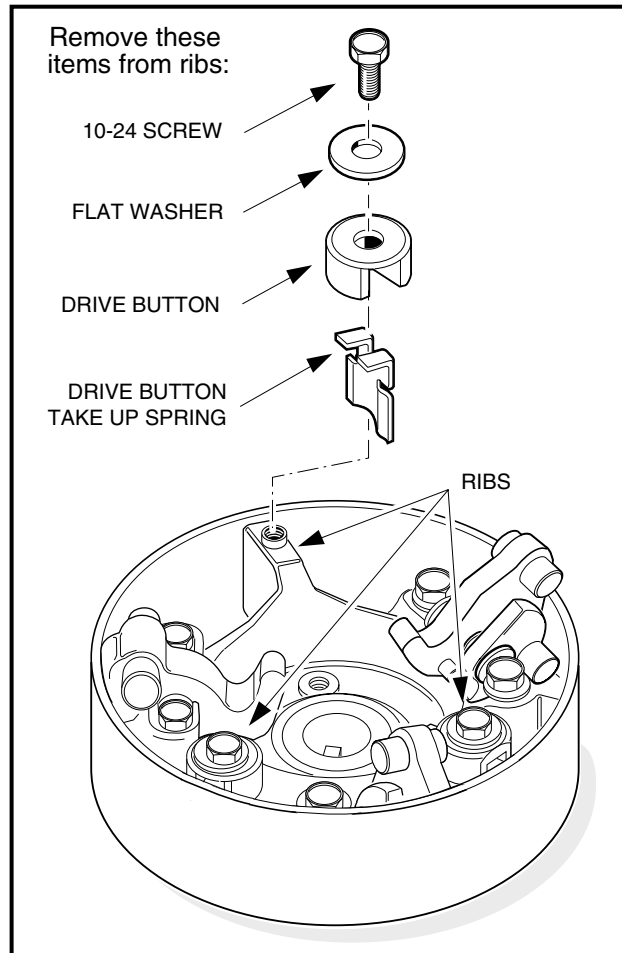

Figure 17-8 Drive Button Mounting
- 4.1. Remove the screws, flat washers, drive button take-up spring, and drive buttons as shown (Figure 17-8, Page 17-10).
14. While compressing the take-up spring, install the drive button over the rib and take-up spring as shown (**Figure 17-8, Page 17-10**).